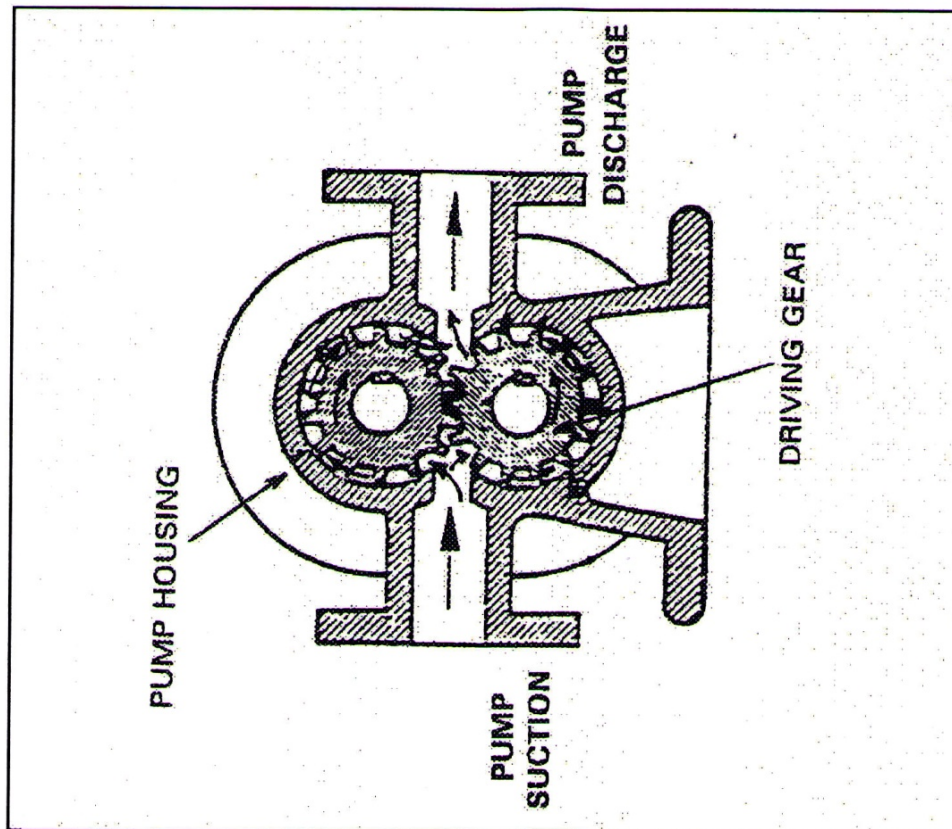

Figure 5-8 Lubricating Oil Pump
5.2.2 Lube Oil Pump (Figure 5-8)